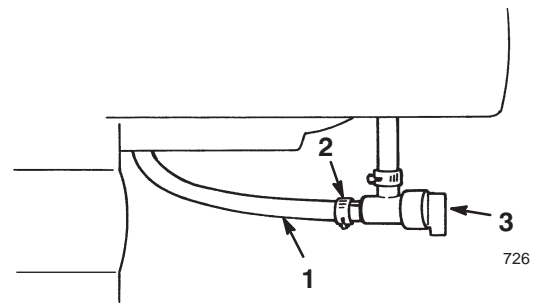

Figure 18
4. Open the fuel shutoff valve below the fuel tank (Fig. 18).
5. Close the fuel shutoff valve (Fig. 18).